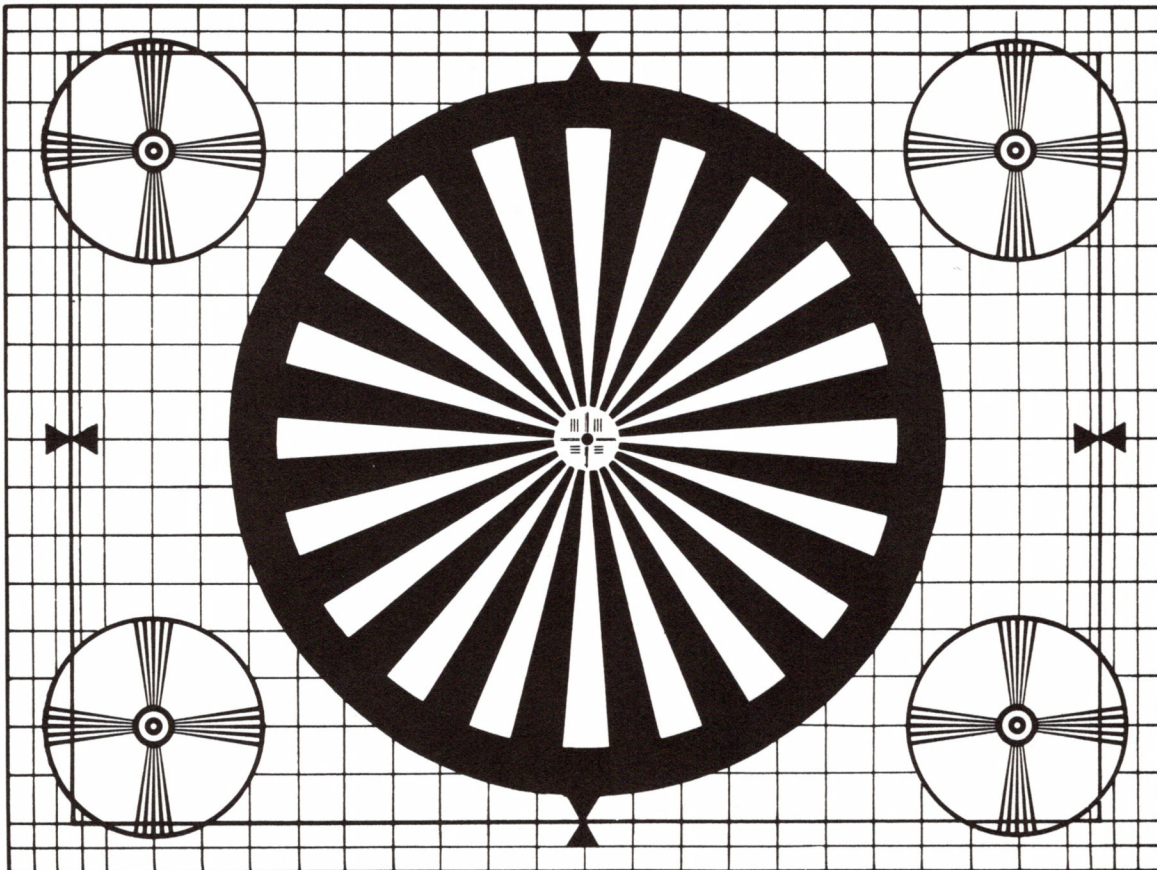

Figure 5-31. Star Resolution Focusing Chart
STEP 1 Aim camera at a resolution chart placed approximately 10 ft or more in front of camera. A star resolution chart, such as that shown in Figure 5-31, is particularly useful when setting focus. Zoom fully out with lens fully open.